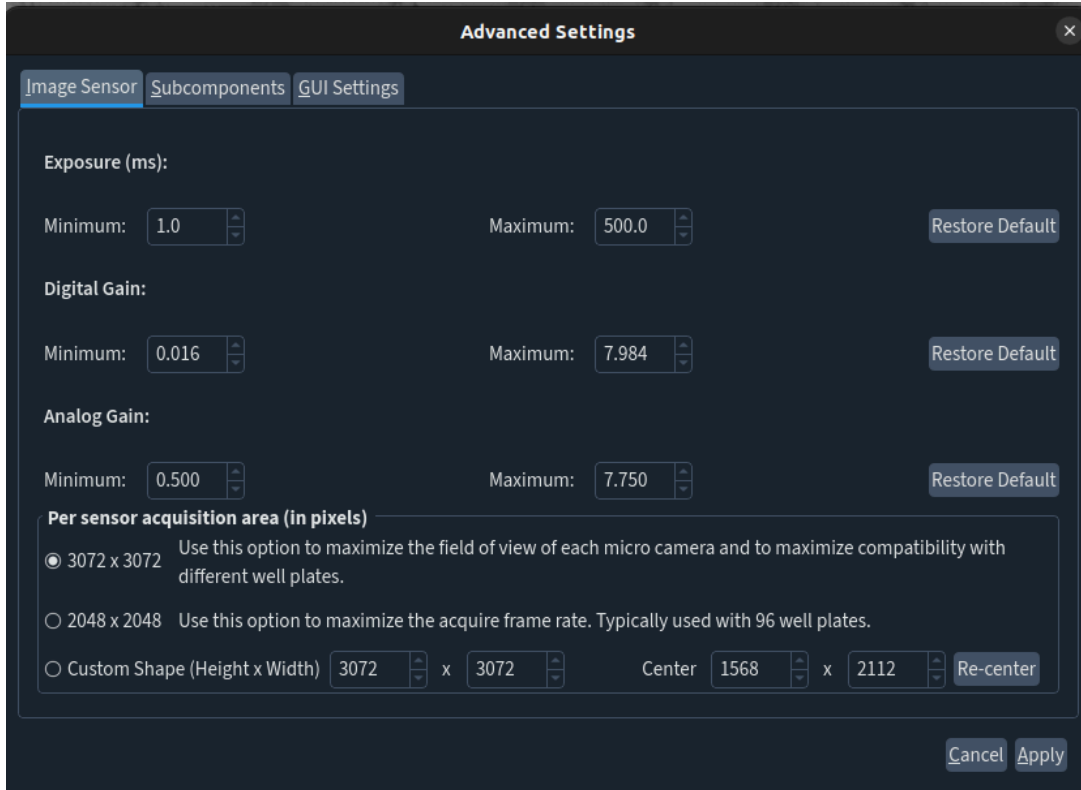

Fig 84: Advanced settings panel.
2. Open the “Additional Settings” under the “Advanced” dropdown (Fig 84).